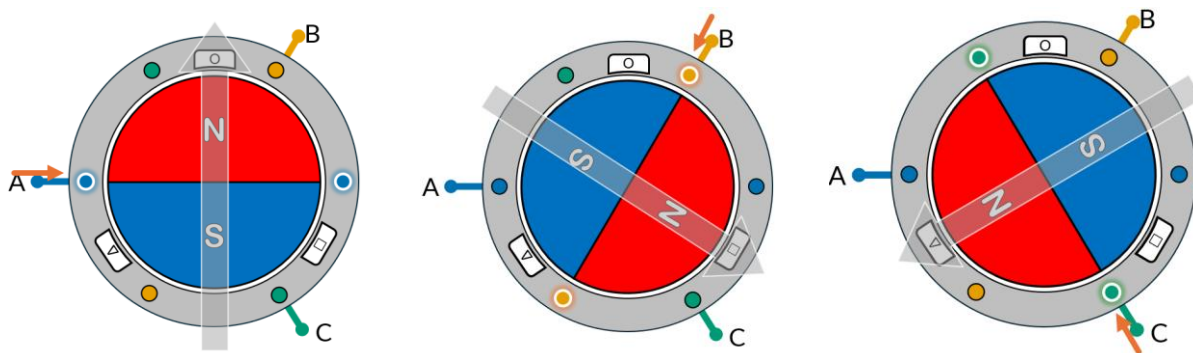

Figure 1. Magnet positions and magnetic fields when energizing a single coils with all 3 enabled
5. As noted in the concept reviews, the hall sensor outputs a 1 when they detect a north pole in the magnet close by. When energizing a coil, a magnetic field is generated. In this special case where 3 coils are enabled, 1 as high and 2 as low, the magnetic field generated is as shown with a white arrow in Figure 1, which would move the magnet into the positions shown in the image. Note that the figure has coils named A, B, and C, and the sensors are denoted with shapes: a circle, triangle and square.
6. Run `bldc_hall.py`, it will run for 30 seconds, look at the printed output, note what hall sensor goes high when each of the coils is activated. Note that the motor might feel like it changed and the print might happen a second later. It is expected. Based on that, where would you place sensor 1, 2 and 3 in Figure 1? Which one would be the circle, triangle and square?